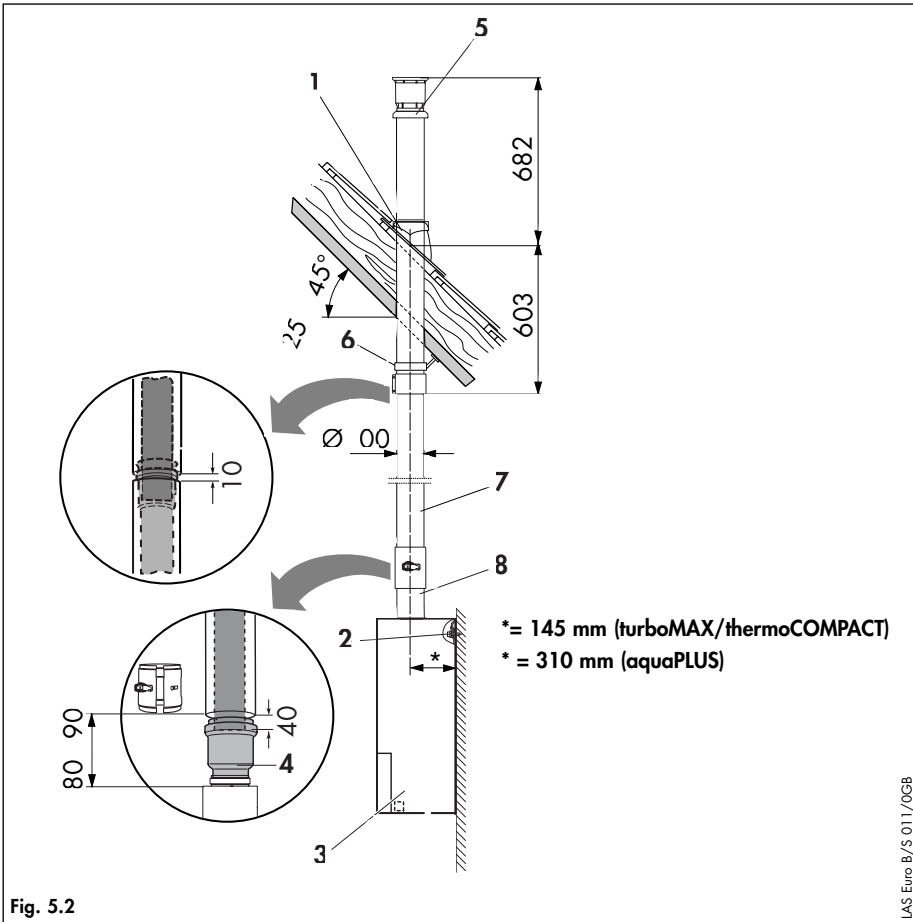

Fig. 5.2
- Determine the point of termination of the vertical air/flue duct and terminal assembly. Install the adjustable pitched roof tile (1, fig. 5.2) in position.
- Make a hole in the roof of 120 mm diameter. Secure the flat roof collar (1, fig. 5.2) to the roof covering above the hole in accordance with the codes of practice for flat roofs (CP 144) to ensure a watertight seal.